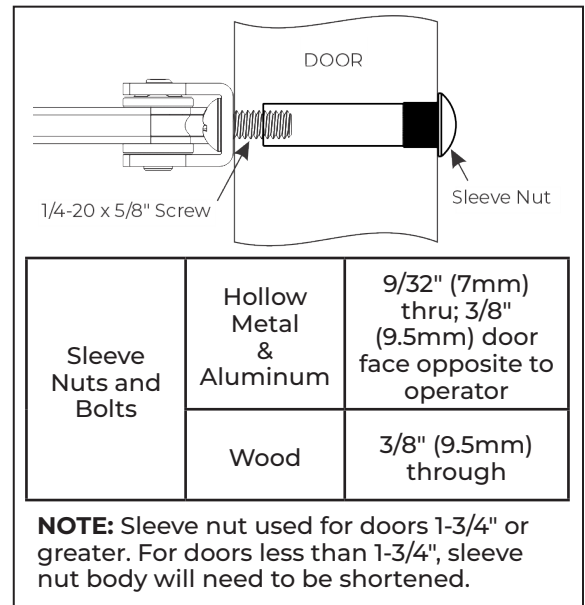

Fig. 5
- Reference Fig. 5 and use 1/4-20 x 5/8" screws with sleeve nuts.
- For wood doors:** Reference Fig. 5 and use 1/4-20 x 5/8" screws with sleeve nuts.